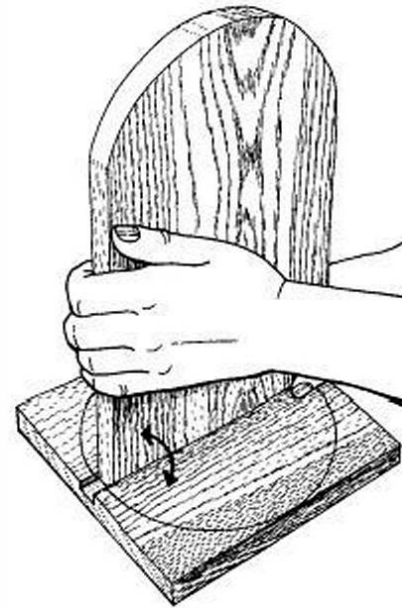

FIGURE 20-4
- 4 Work the channel until it takes the backboard for a nice tight push fit (Figure 20-4). When you're happy with the joint, cut the base disk out on the scroll saw.